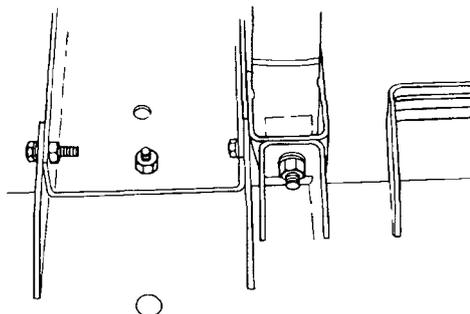

Figure 319 Removing the Body Support Brace
- ii. Remove the bolts, nuts and washers securing the front body support brace to the chassis frame (Figure 319).
- e.** Install the nuts, washers and bolts retaining the front body support brace (Figure 319) and tighten them securely.